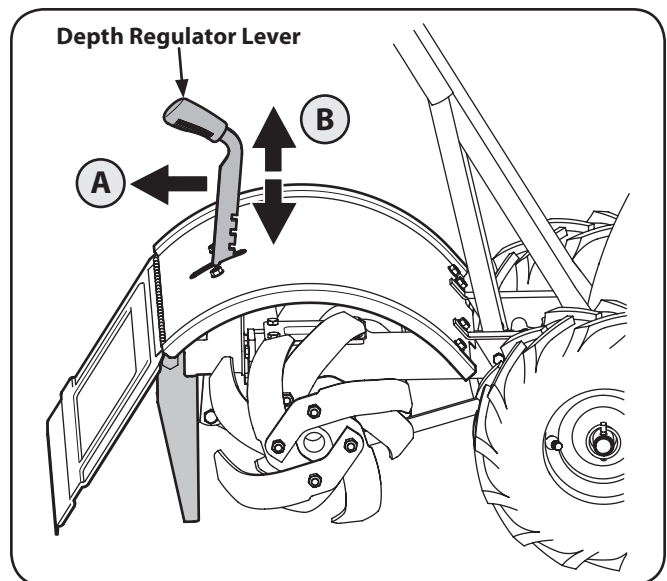

Figure 5-1
3. Move the depth regulator lever all the way down to the "travel" position, so that the tines clear the ground. To change the depth setting, pull back on the depth regulator lever (A) and lift up or down (B), then release the lever (C) to secure in the desired position. See Figure 5-1.